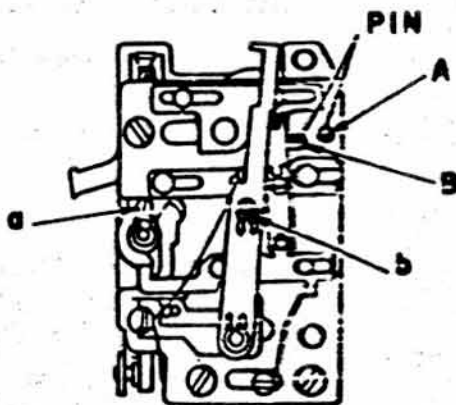
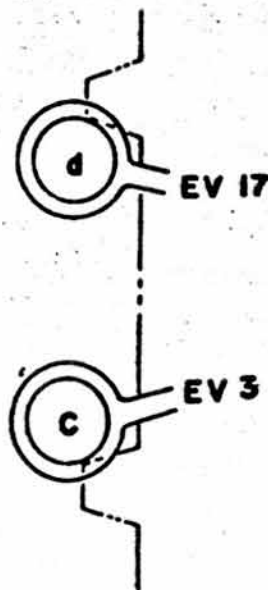
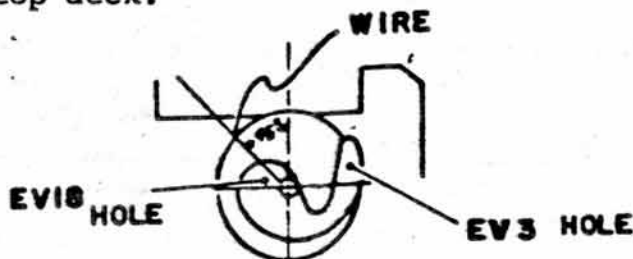

Fig. 1
Fig. 2
Fig. 9
(1) Start Position Adjustment
- (b) Align the EV3 position hole in the cam/puiley with the hole "A" in Figure 1 and install the pin to hold the position. (See also Figure 9)
- (d) Adjust eccentric "a" in Figure 1 so the match needle is aligned as shown in Figure 2 "C"
(2) Stroke Adjustment
- (a) Align EV 17 hole with hole "B" in Figure 1 and install pin.
- (c) Adjust eccentric "b" in Figure 1 until the match needle is adjusted to position "d" in Figure 2.
- (3) Repeat procedure to insure that the stroke adjustment is correct.